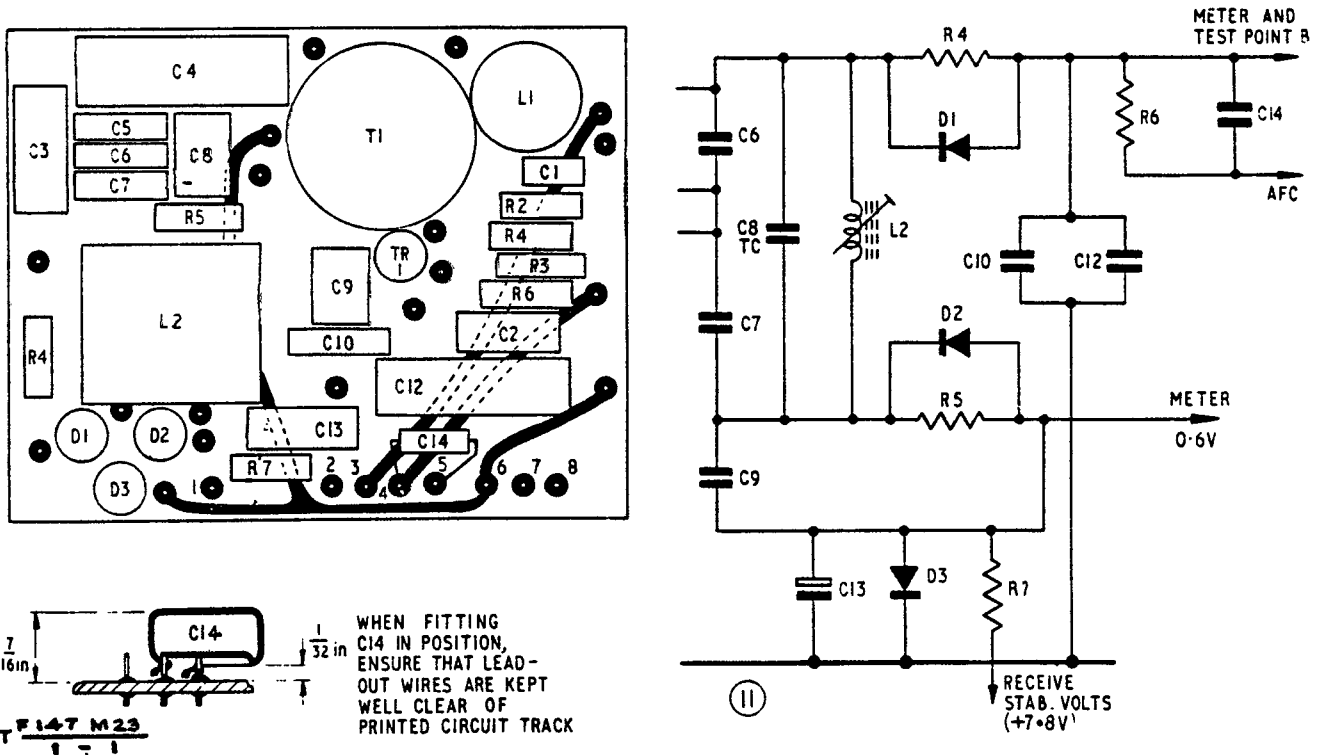

Fig 1 - Board 11, modification detail
Panel, electronic circuit, (board 11) - figure 1
Panel, electronic circuit, (board 13) - figure 1
- c. Solder the capacitor, fixed, mica dielectric, 1000pF (Z1/5910-99-999-1867), new circuit designation 11C14, between pins 4 and 5 on the Panel, electronic circuit (see fig 1).
- e. Record the embodiment of this modification by painting through, with a diagonal line the figure 1 on the mod record label of board 11 with paint, finishing, red (H1/8010-99-910-7033).
m. Record the embodiment of this modification by painting through, with a diagonal line the figure 1 on the mod record label of board 13 with paint, finishing red (H1/8010-99-910-7033).
Insert new 11C14 in the position shown in fig 1.
Insert new C14 as shown in fig 1.
Insert new C14 as shown in fig 1